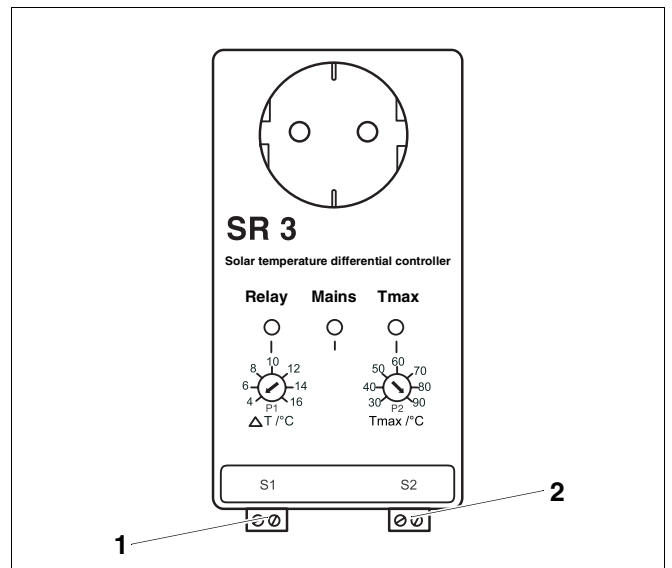

Fig. 6 Socket controller SR 3
- Connect the sensor cables to the control device (Fig. 6, **item 1 and 2**). These connections are not pole-specific.